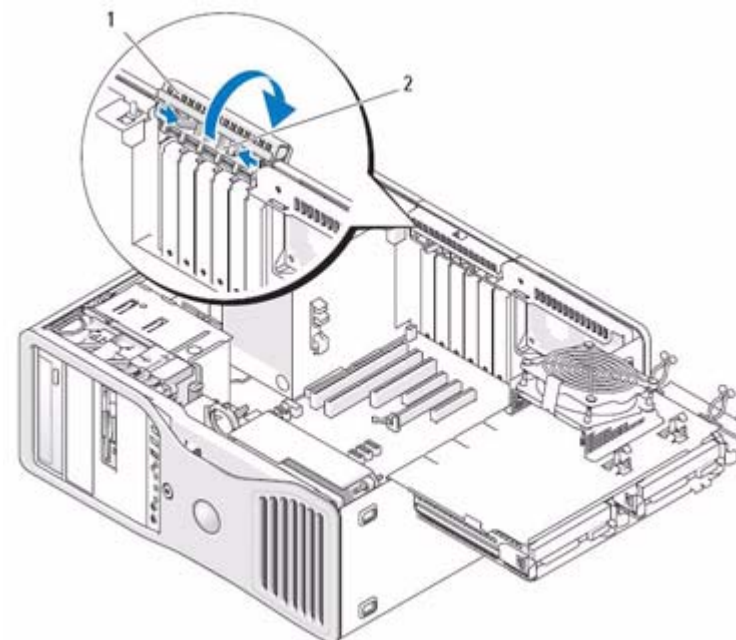

Figure 18:
5. Press the release tabs on the card retention door towards each other and pivot the door open Figure 18 on page 23.